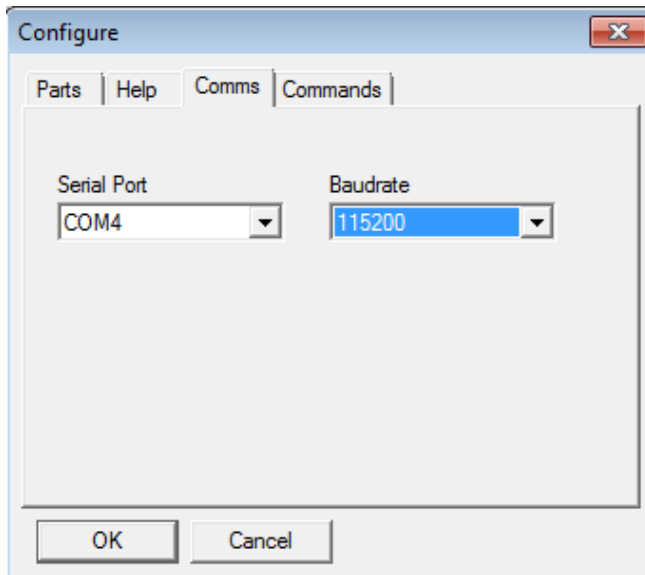

Figure 8. Selecting the Correct COM Port for the Downloader
- Click **Configure** to display the box shown in Figure 8.
The downloader file should be configured for the **ADuC7026** microcontroller on the ISEB. This can be selected in the **Parts** tab. The other option you may need to change is the COM port. You can select the correct port from the **Serial Port** menu on the **Comms** tab (see Figure 8). If you cannot download the .hex file correctly, please try to make the **Baudrate** lower and retry. "Program" and "Verify" and suggested to check at the same time in **Commands** tab.